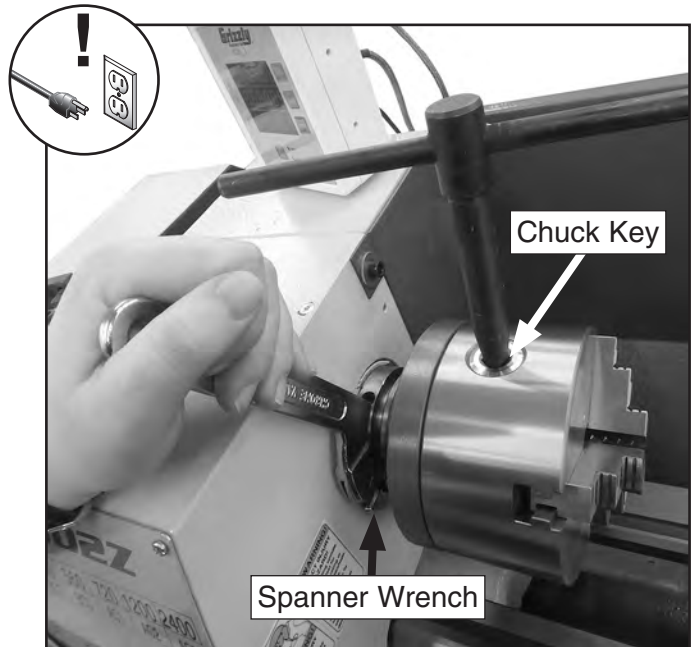

Figure 18. Example of using chuck key and spanner wrench to tighten chuck onto spindle.
- Insert spanner wrench into spindle indent, as shown in **Figure 18**, then support and unthread the chuck from spindle using chuck key.